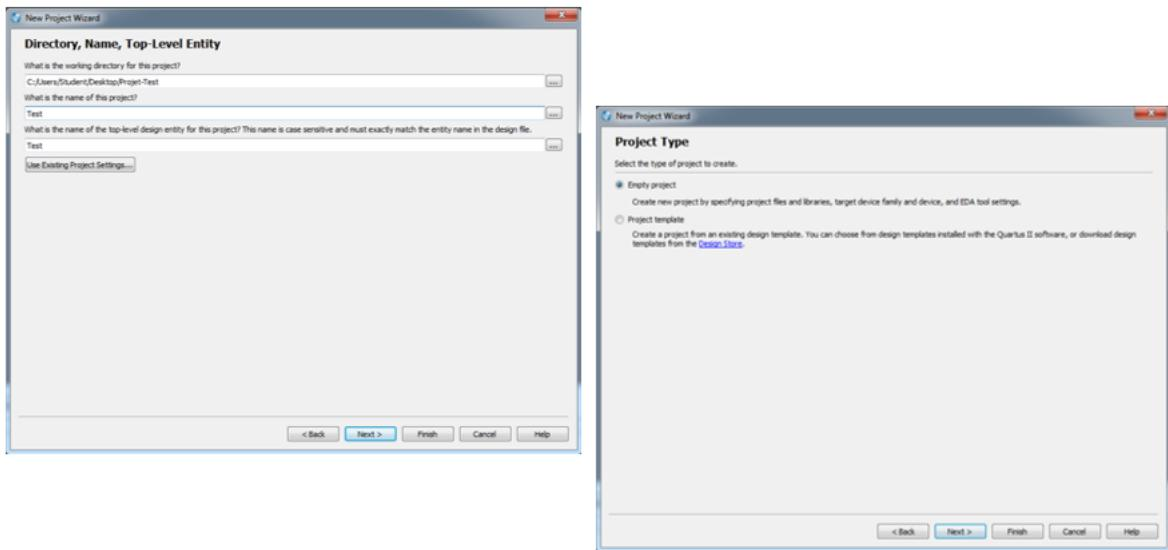

FIGURE 5.1 – Create a new project
3. A new window opens : ( Figure 5.1 )